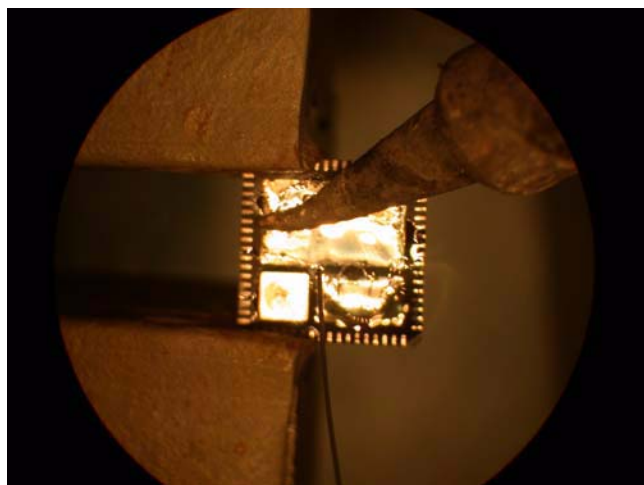

FIGURE 15. TINNING OF THERMAL LAND ON QFN (90% COMPLETE)
2. Tin the large center thermal land on the bottom of the replacement component using a hot iron with a tip temp of approximately +370 °C. This is done by first tinning the iron tip with solder. Then liberally apply liquid flux to the component center thermal land and "dab" the tinned iron tip onto the large thermal land of the component in a "tapping" type motion (see Figure 14 and Figure 15).